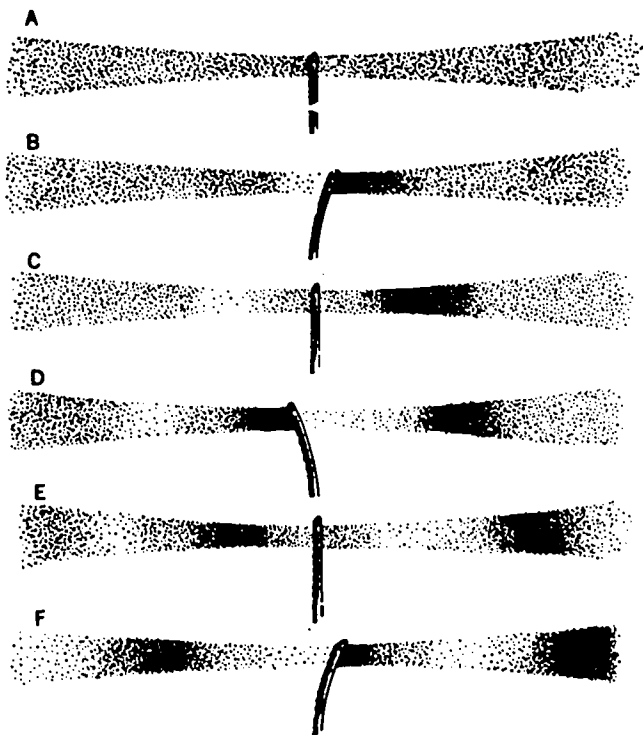

Figure 6-2. Sound wave produced by vibrating blade.
Sound Generation. The manner in which sound waves are produced can be understood by considering a vibrating strip of metal, such as the hacksaw blade illustrated in figure 6-2. While looking at this illustration, imagine that the hacksaw blade is fastened to a table in the vertical position and that it is at rest as shown at A in the illustration. Now, if the blade is caused to vibrate rapidly back and forth, two events of opposite nature will occur as the blade makes its initial trip to the right. These two events, as shown at B in the illustration, are: (1) the blade increases the pressure in the group of air particles on its right, causing a bunching-up of the particles on that side; and (2) the blade decreases the pressure in the group of air particles on its left, causing local rarefaction of the particles on that side. This rarefaction on
While looking at B in figure 6-2, note that movement of the blade to the right imparts motion to the particles on each side of the blade. As you can see at C in the figure, by the time that the blade has returned to the center, there is a wave of pressure (bunched particles) moving outward on the right side and a wave of low pressure moving outward on the left side. In reference to D, you can see that as the blade moves to the left, a wave of bunched particles is established on the left side and a rarefaction of particles on the right side. As the blade continues to vibrate (see E and F of fig. 6-2), the waves move outward on both sides of the blade. These waves of both bunched and rarefied particles are the waves that strike the sensitive membranes of the ear, causing the sensation of sound.